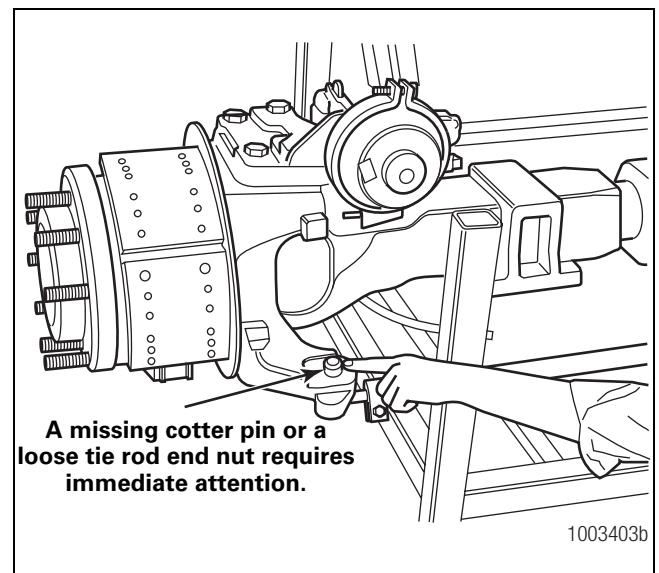

Figure 5.10
- **If the cotter pin is missing:** Check the nut torque specification. Install a new cotter pin. Always tighten the tie rod end nut to 300 lb-ft (407 N•m) when installing the cotter pin. Figure 5.10. **ⓘ**